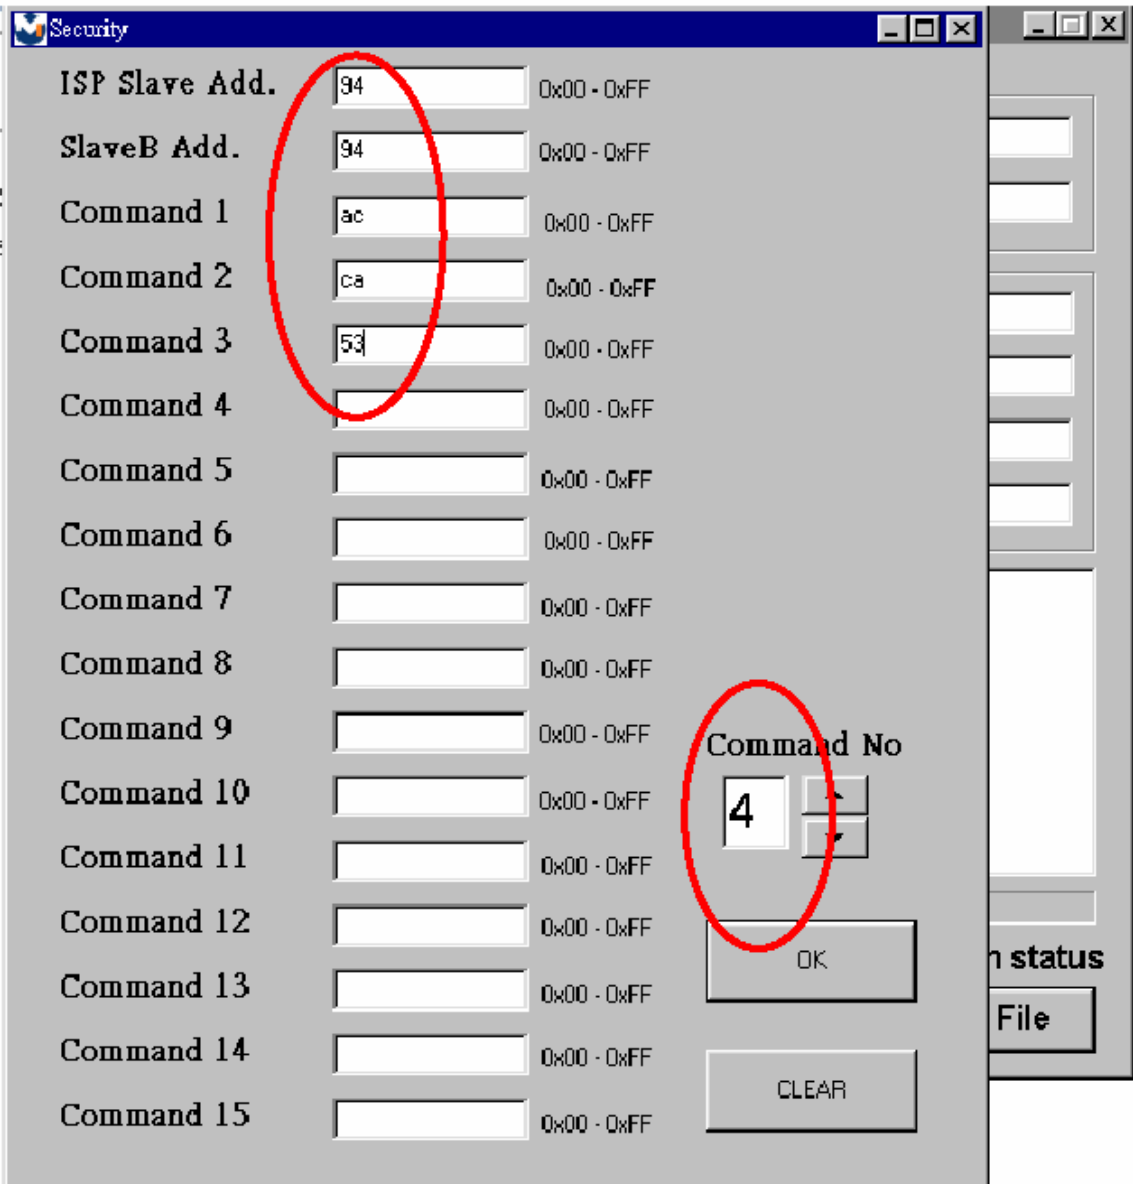

Fig 3.6
3.6 Fig 3.6 shows the setting for security code of **hardware ISP**, it needs **4** Command No, and key in command sequentially for **94, 94, AC, CA, 53**.